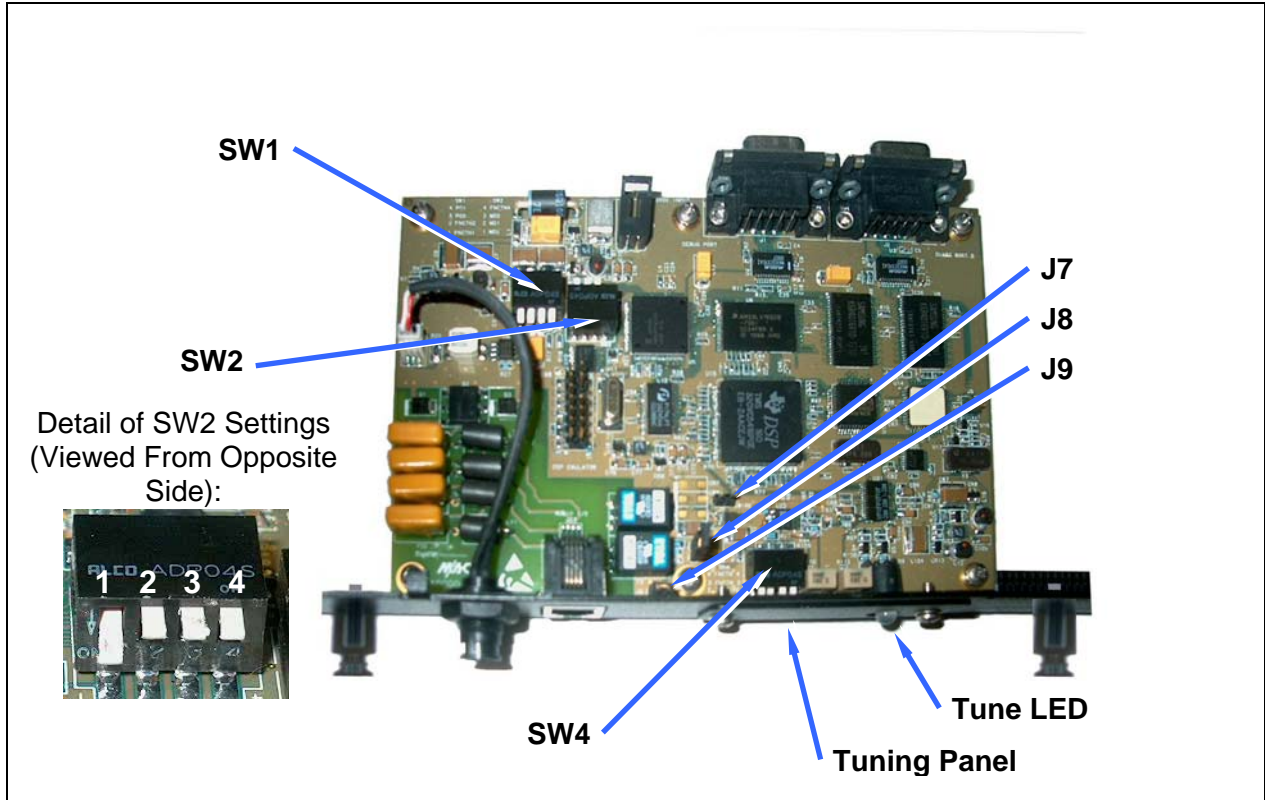

Figure 4-6: TRCM-103 Jumper and Switch Settings
TRCM-103 DIP switch locations are shown in Figure 4-6 on page 20. **Switch positions of SW1 and SW2 are factory-set and must not be changed.** Changes may be required to SW4 position 2 (“SW4-2”) as presented in the step 3 of this procedure:
1. Referring to Figure 4-6 for switch locations, verify all DIP switch positions are at the factory-default settings as shown in the “NORMAL OPERATION” part of Figure 4-5. (All positions of SW1 must be DOWN, SW2 position 1 must be DOWN, SW2 positions 2 through 4 must be UP, and positions 1, 3 and 4 of SW4 must be UP.)
2. The default configuration for jumper J8 on the TRCM-103 is ON (installed). This sets the TRCM-103's audio line termination to the low impedance (600-ohm) state so it can be utilized as an endpoint in the CS-7200-to-TRC(s) 2 or 4-wire audio “chain.” Refer to Figure 4-6 for the location of jumper J8. If the TRCM-103 is to be configured in the middle of the chain when paralleled TRCs are employed, see section 4.7.2.3 on page 22 for additional information.
3. Factory default TRCM-103 settings configure it for a 4-wire line interface to the TRC(s). This is determined by jumper J9 being ON (installed) and SW4 position 2 being DOWN. If a 2-wire line interface connects the TRC to the TRCM-103, move the jumper on J9 to J7 and set SW4 position 2 UP. Refer to Figure 4-6 on page 20 as necessary.